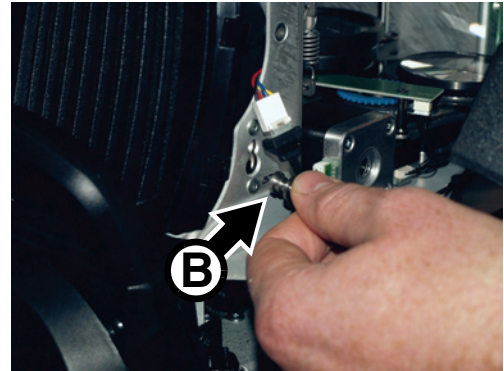

Figure 12: Access to the head
2. See Figure 12. Remove both head covers by loosening their Torx 25 captive retaining screws **A** until the screws turn freely. Lift the front of each cover slightly away from the head, then slide the cover towards the front of the head to release the rear of the cover.
1. See Figure 12. Hold each cover up to the head and fasten its safety wire retaining clip **B** into the head chassis by pressing the clip through its hole and then sliding it until it is held securely.